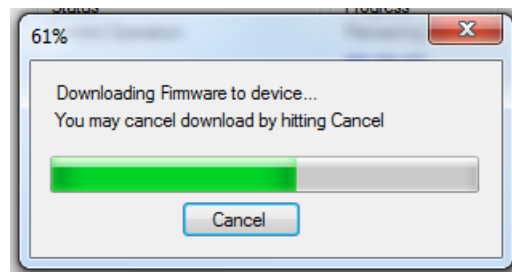

Figure 8. Downloading Firmware Message
- (b) Click Load. The RTTT application begins downloading the firmware files entered in the previous steps (see Figure 8).